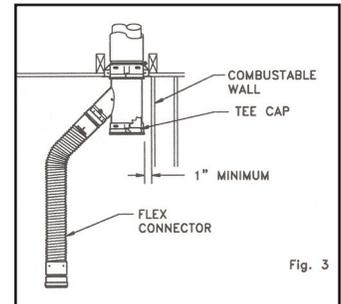

Fig. 3
3. Alternate ways of connecting to the Type B gas vent. Involve the use of a tee and a tee cap (see Figure 2), or a wye and a tee cap (see Figure 3).